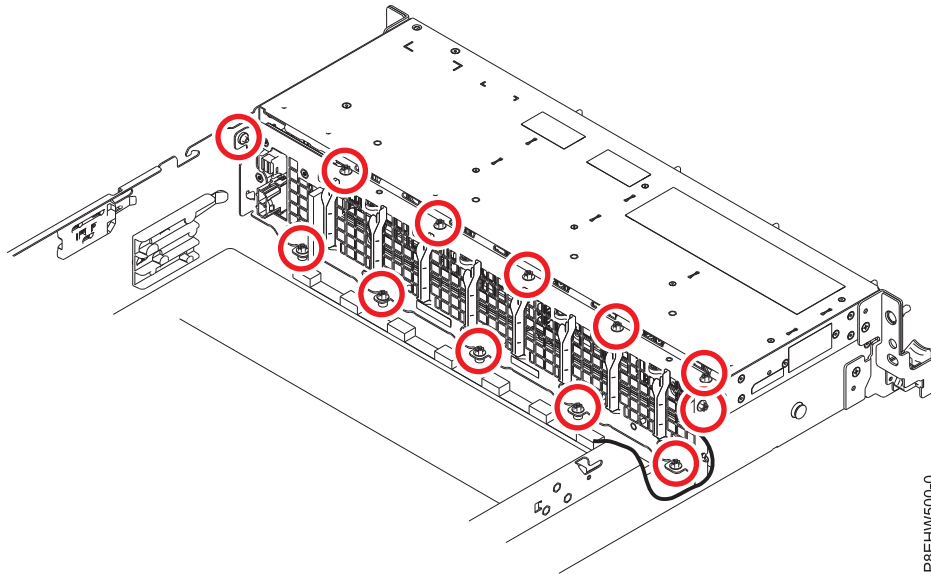

Figure 6. Screw locations for the disk drive and fan card
4. Replace five screws for the bottom of the disk drive and fan card. Figure 6 on page 13 shows all 12 screw locations.